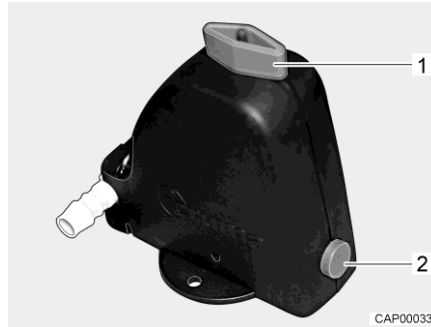
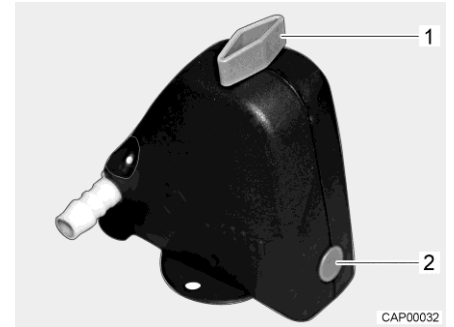

Fig. 153 Safety/drainage valve open
Fig. 154 Safety/drainage valve closed
- Close the safety/drainage valve. Turn the knob (Fig. 153,1) perpendicular to the safety/drainage valve and push the push button (Fig. 153,2) in. The closed safety/drainage valve is shown in Fig. 154. If the temperature is below 6 °C, the safety/drainage valve cannot be closed.